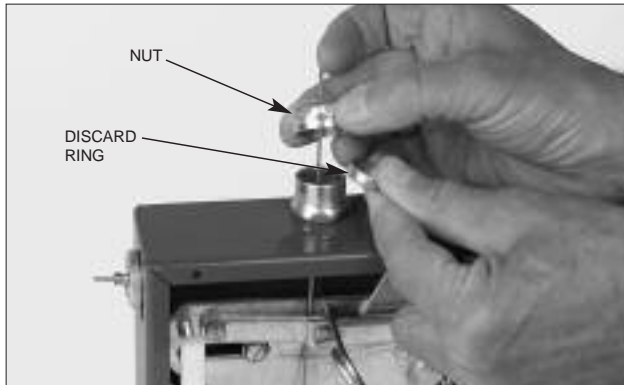

FIGURE 3
3. Unscrew the nut from the EMT conduit connector and remove the compression ring. Discard ring. See Figure 3.